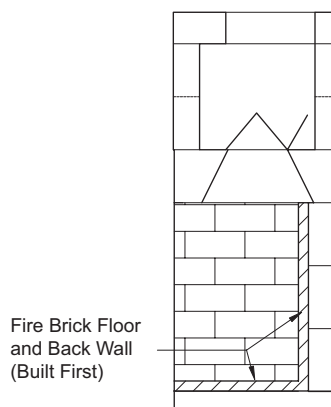

FIGURE 66
5. Set the side wall firebrick by starting at the front edge of the unit's side wall and working inward toward the back wall firebrick. The side wall firebrick, when completed, covers the 1/2" expansion gaps where both the floor firebrick and the back wall firebrick were held off the units side walls. **(Figure 66)**